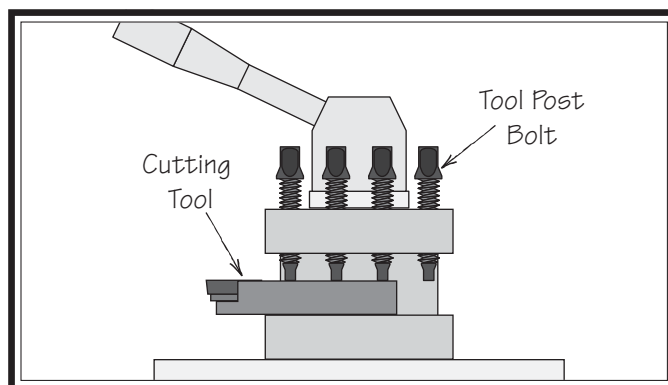

Figure 72. Tool mounted in 4-way tool post.
3. Firmly secure the cutting tool with at least two tool post bolts (**Figure 72**).